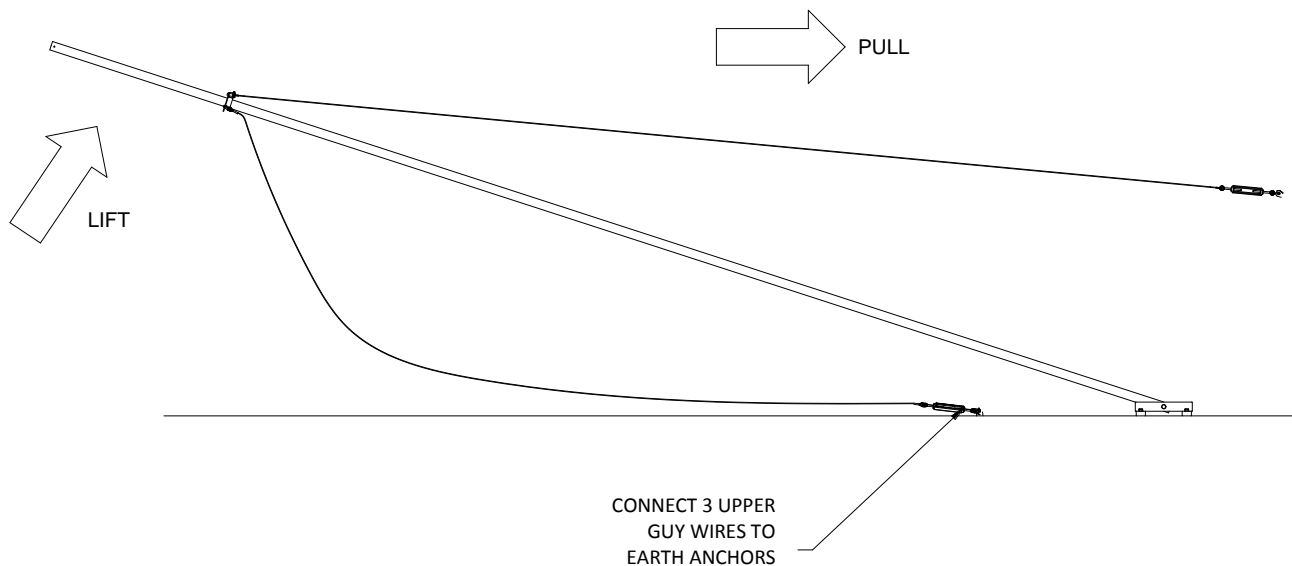

Fig 8: Connect three upper guy wires and hoist the tower
12. **Connect three of the upper guy wires to the guy wire anchors and hoist the tower** - Select three of the guy wires, leaving a single guy wire that works in line with the tilt-up direction. Using the 'D' shackles, attach these three guy wires to a corresponding guy anchor. The fourth guy wire is now used to hoist the tower **without the turbine installed**. Two people may be required. One person should pull the guy wire, whilst the other lifts the tower from the other side. Ensure that safety is your first priority during the hoisting operation. Use the 'D' shackle to attach the fourth guy wire to the guy anchor - see fig 8. The mid position guy wires can also be connected to the ground anchors in the same fashion.